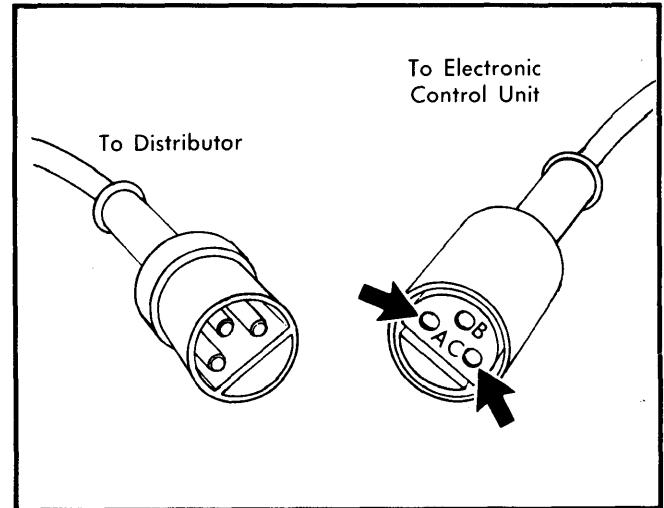

Fig. 3 Distributor Connector Showing Pin Locations
2) If no spark occurs, disconnect connector at distributor. Connect a jumper wire to pin "A" in electronic control unit connector. See Fig. 3. With ignition "ON", touch pin "C" with other end of jumper wire and check for spark.